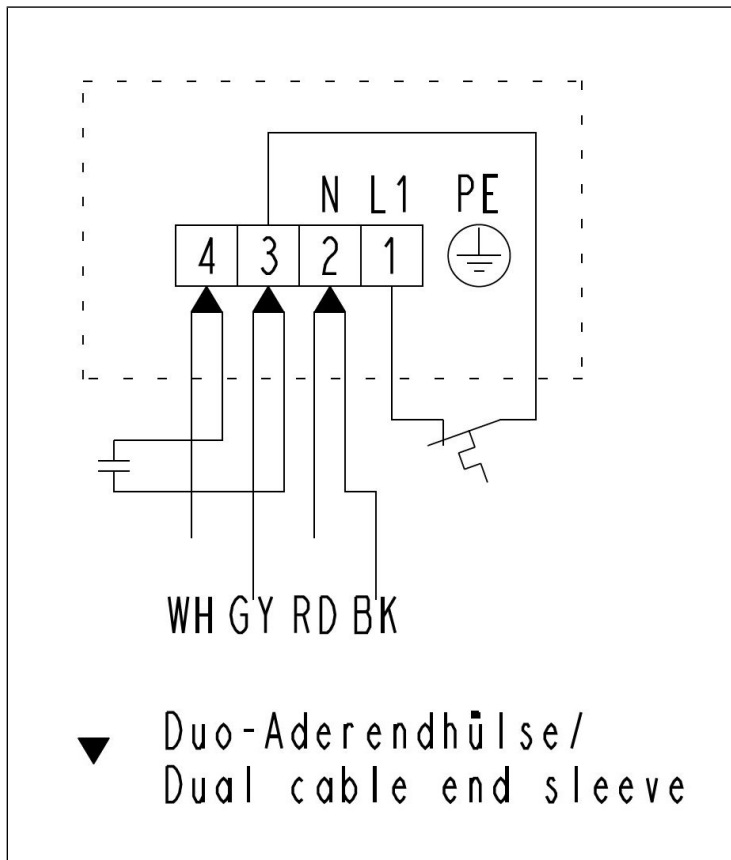

Fig.10: Electrical connection of .16 version
4. Connect the power cable to connections L 1 and N of the terminal blocks (see Fig. 10).